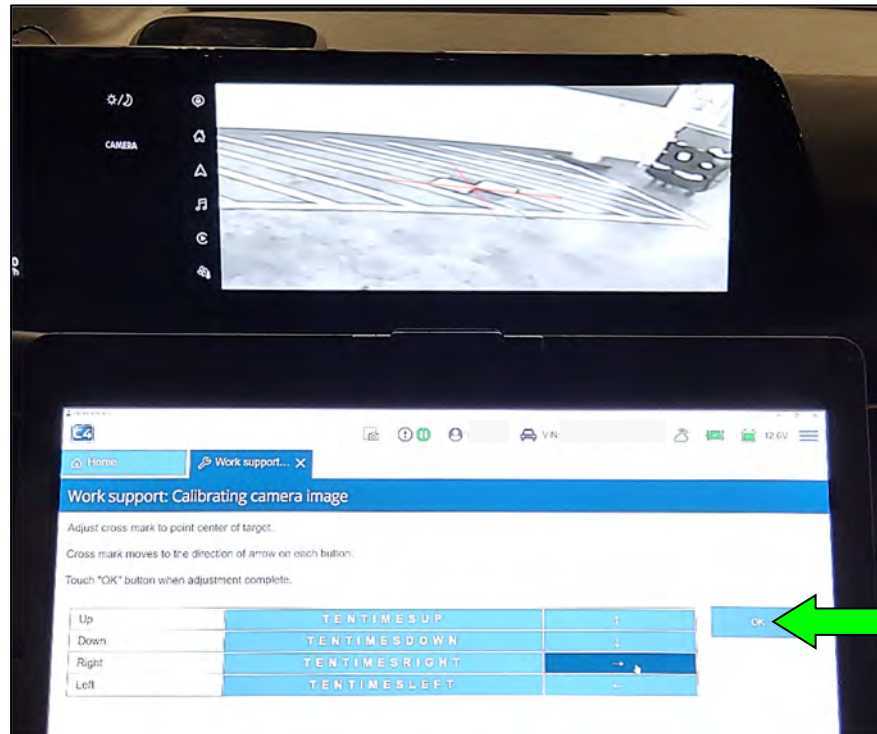

Figure 119
81. When the center of the red crosshair is in the center of the calibration target, select **OK** (Figure 119).
82. Repeat steps 79 - 81 starting on page 60, for all seven (7) targets, and then select **mm**.